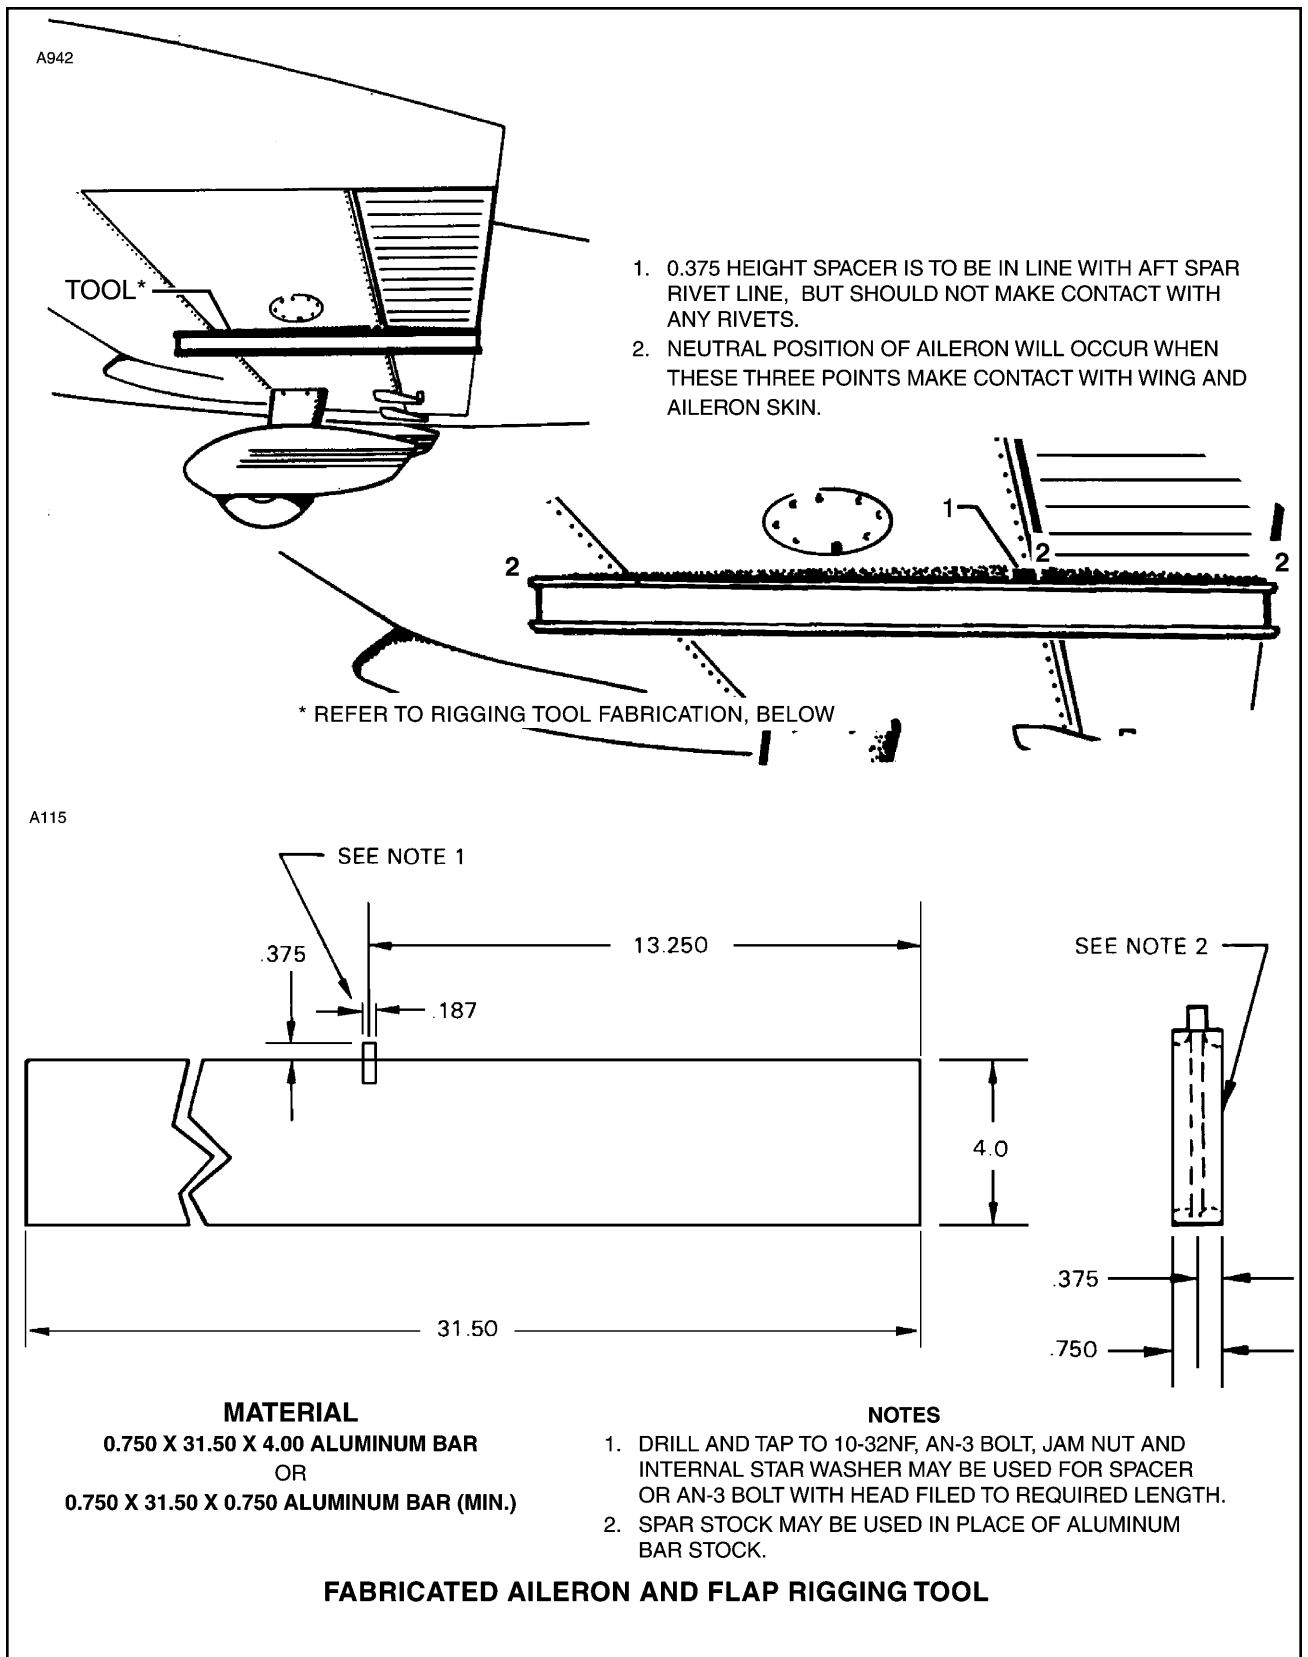

Figure 5-5. Aileron Rigging Tool Application and Fabrication
2. Place an aileron rigging tool as shown in Figure 5-5 against the underside of the wing and aileron as close as possible to the inboard end of the aileron without contacting any rivets. The tool must be positioned paralleled with the wing ribs, with the aft end of the tool, even with the trailing edge of the aileron. (This tool may be fabricated to dimensions given in Figure 5-5.)